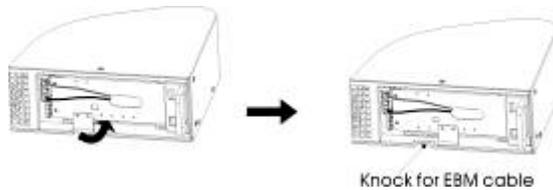

Figure11 Removing the UPS Cable Knockout
3. For the bottom (or only) EBP, remove the EBP cable knockout on the top of the EBP front cover. See Figure 11 for the location of the top EBP cable knockout.
4. If you are installing more than one EBP, for each additional EBP remove the EBP cable knockout on the top **and** bottom of the EBP front cover. See Figure 11 for the location of the EBP cable knockouts.